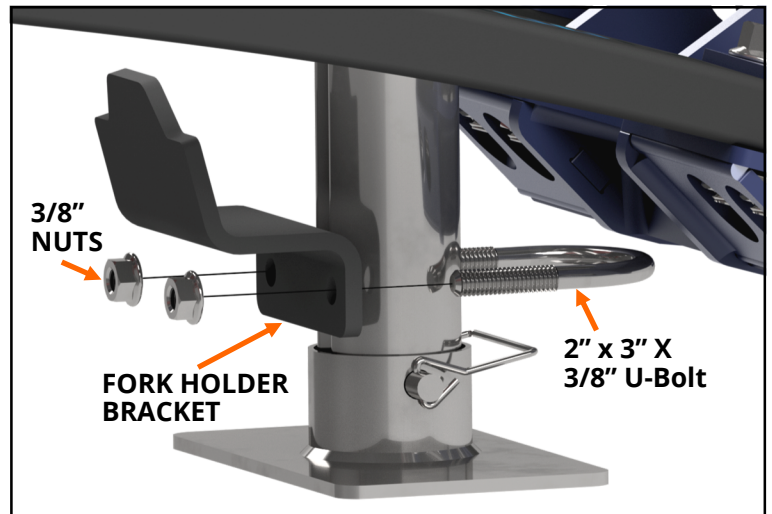

FIGURE G1: View of the jack foot under the trailer.
1. **Install fork holder bracket.** Retrieve the fork holder bracket, 2" U-bolt, and two 3/8" nuts. Place the U-bolt around the jack stand leg and attach the fork holder bracket. Secure with the 3/8" nuts. The bracket must be aligned so it is in front of the tongue jack and above the jack foot, **See Figure G1.** Torque the 3/8" nuts to 30 ft.-lbs.